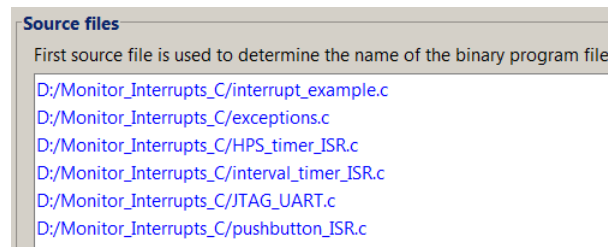

Figure 33. The C-language source files for the ARM interrupt example.
*rupt Example.* Figure 33 lists the source files for this example. The main program is in the file *interrupt\_example.c*. Comments given in this file explain the behavior of the program.